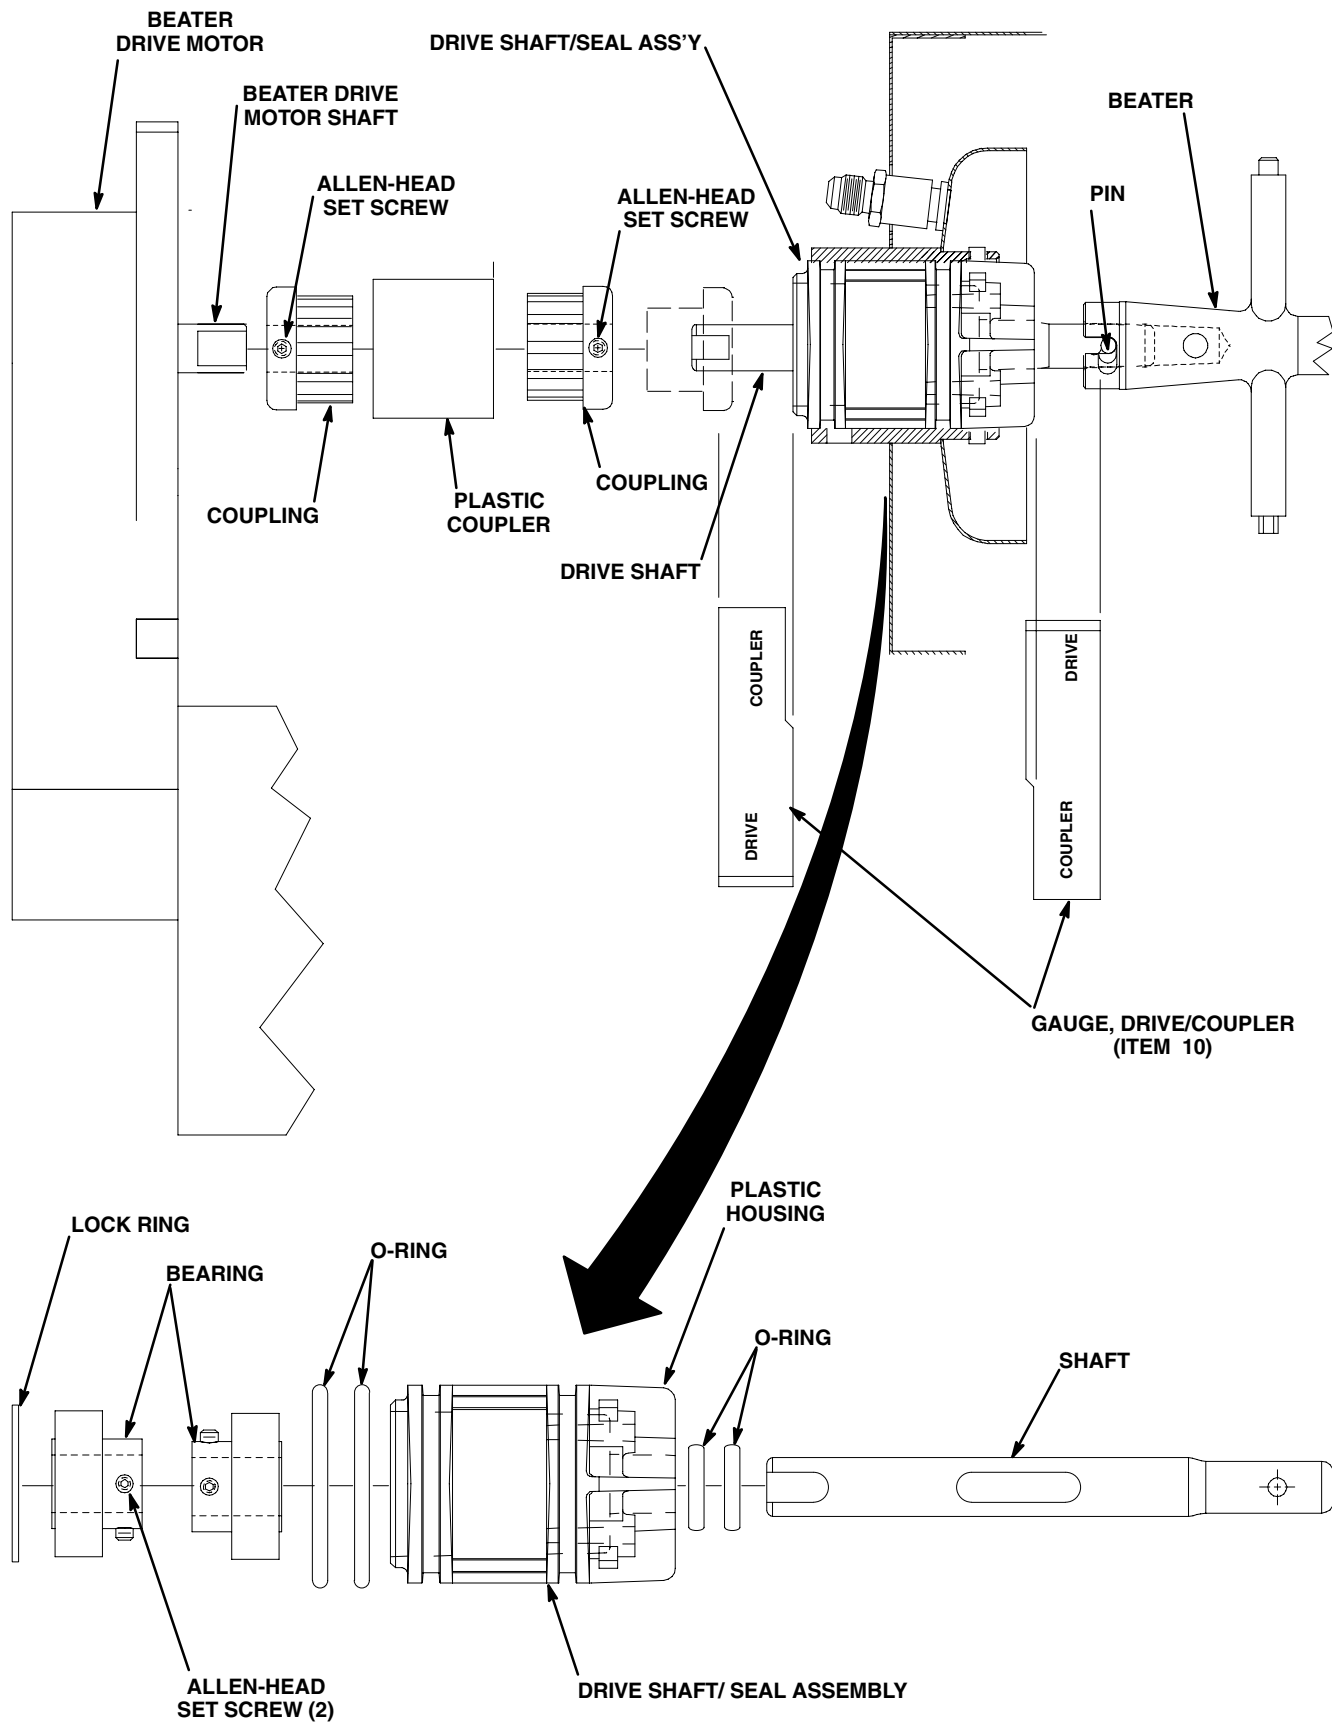

FIGURE 13. SERVICING BEATER MOTOR DRIVE SHAFT/SEAL ASSEMBLY
(see Figure 13)
10. Re-assemble the drive shaft/seal assembly. Using TOOL, DRIVE/COUPLER ADJUSTMENT GAUGE (provided with the Unit), insert “DRIVE” end of adjustment gauge between drive-pin and housing (see Figure 13) to set the shaft end at 1.542-inches out of the plastic housing. *Make sure* Allen-Head set screw in each bearing is securely tightened and properly seated on the shaft flat surface.